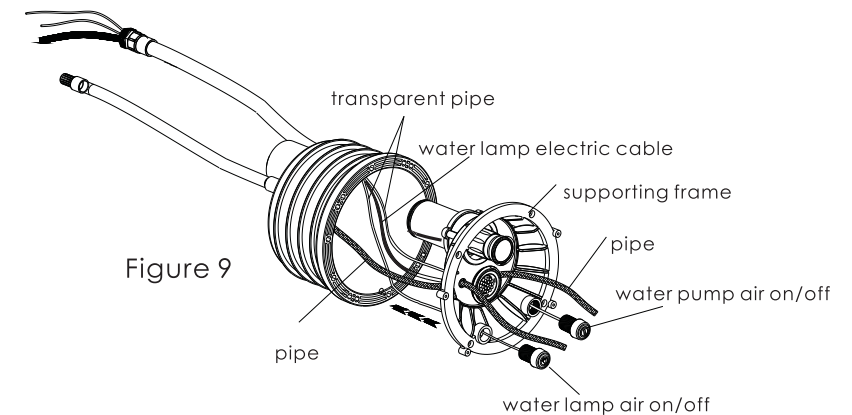

Figure 9
- 1) First use  $\varnothing 5$  transparent air tube and LED light cable respectively to pass through the connecting tube, then connect the two air pipes to the pump switch and pool light air switch respectively. (Figure 9)